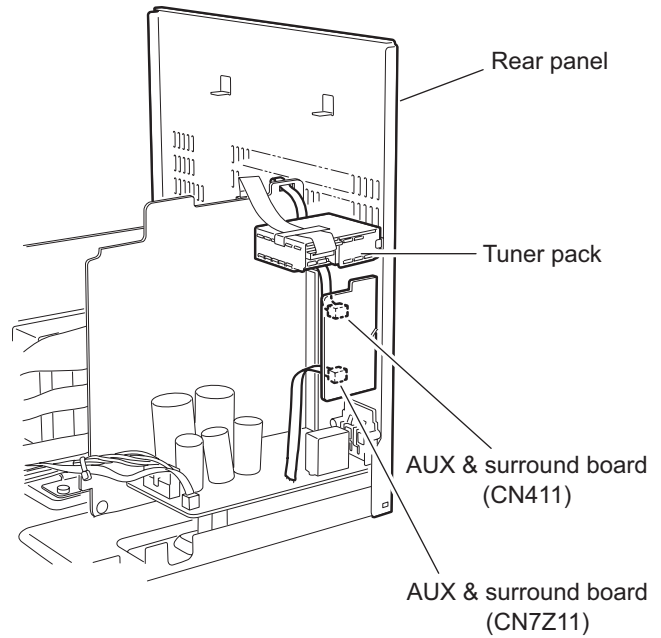

Fig.19
3.1.8 Removing the AUX & surround board (See Fig.19, 20)